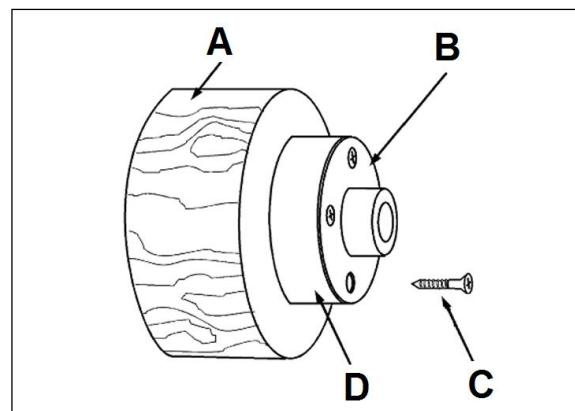

Fig 28
Mount the workpiece (A, Fig 28) directly to the face plate using 4 wood screws (C) from the back.